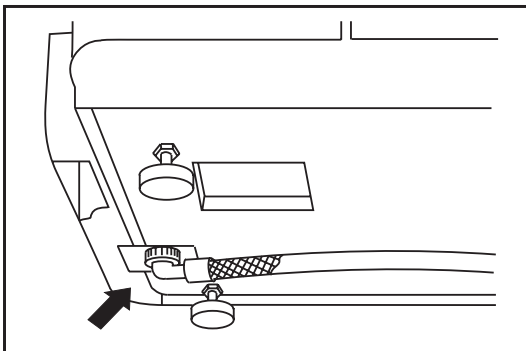

Fig. 3
- Connect the machine to a drinking water system where the pressure is between 1,8 and 8 kPa. For this operation, use the tube provided with the unit and connect it to the nozzle found under the base of the machine (fig.3).